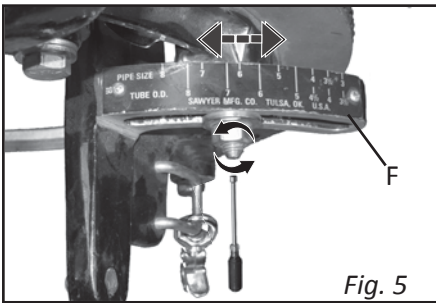

Fig. 5
1. Adjust mounting arms (F, Fig. 5) to appropriate pipe/tube size.